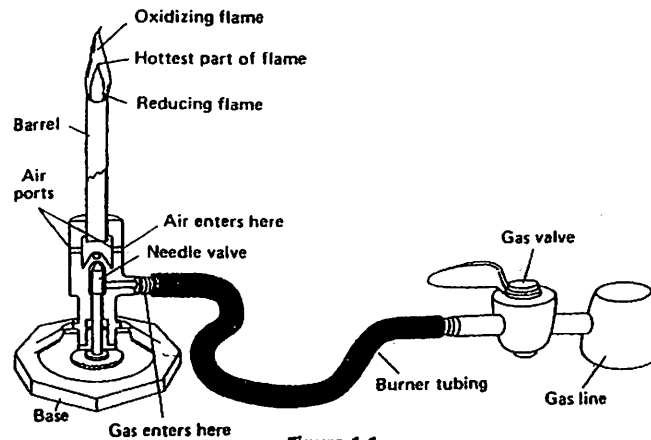

Figure 1-1
1. The Bunsen or Tirrell burner is commonly used as a source of heat in the laboratory. Although the details of construction vary among burners, each has a gas inlet located in the base, a vertical tube or barrel in which the gas is mixed with air, and adjustable openings or ports in the base of the barrel. These ports admit air to the gas stream. The burner may have an adjustable needle valve to regulate the flow of gas. In some models the gas flow is regulated simply by adjusting the gas valve on the supply line. The burner is always turned off at the gas valve, never at the needle valve. Look at Figure 1-1 as you examine your Bunsen burner and locate these parts.